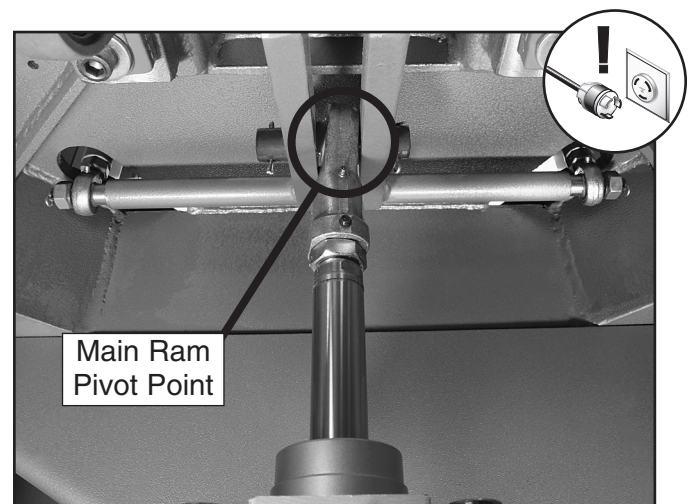

Figure 38. Main pneumatic ram pivot point (shown through the rear cabinet access).
3. Brush a small amount of multi-purpose grease on and around the main ram pivot point (see **Figure 38**).